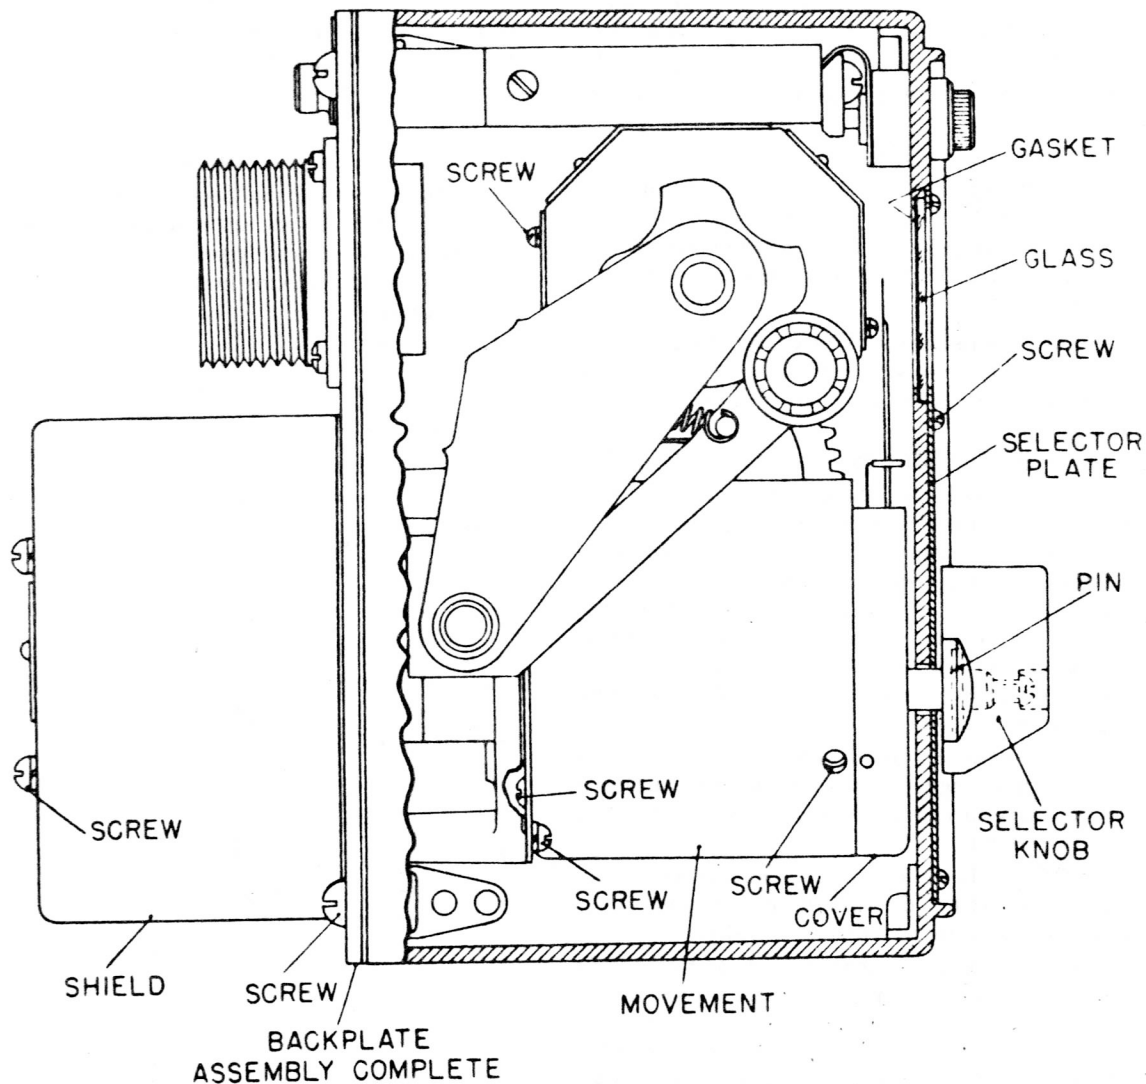
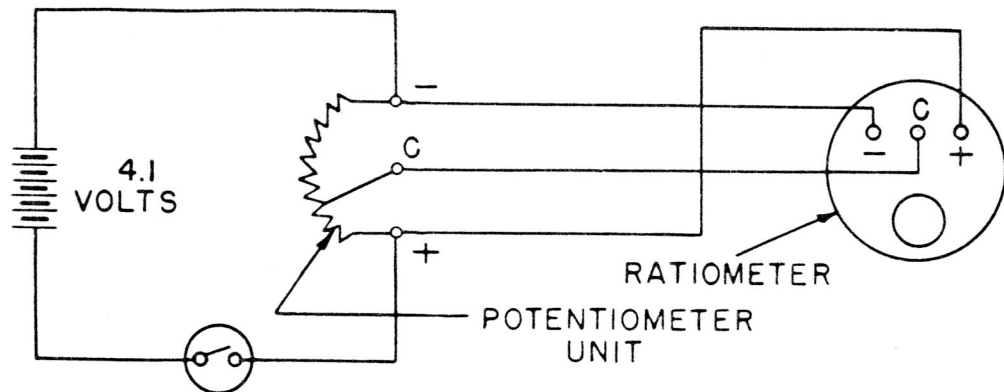

Figure 238 - Dial Change Indicator (Sectional View)
Figure 239—Electrical Connection Diagram
a. INSPECTION (See figure 238).
(1) ELECTRICAL.
- (d) Connect as shown in figure 239. Adjust the potentiometer unit to the value shown in table. The pointer should indicate EMPTY,